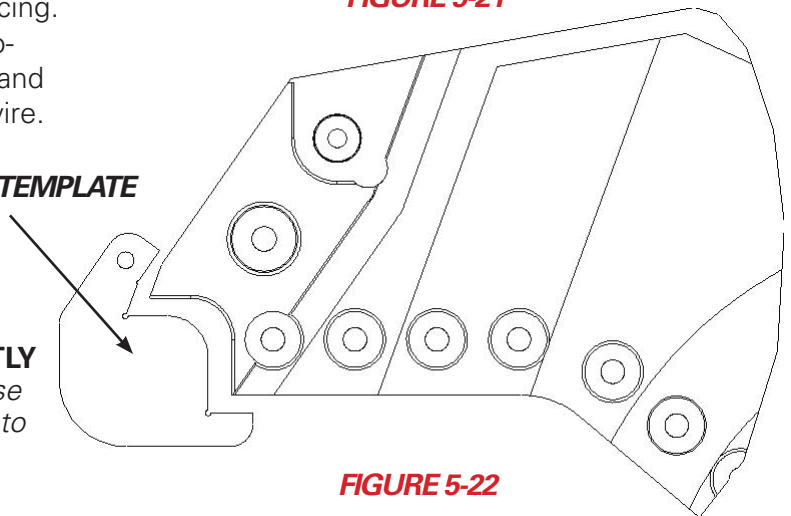

FIGURE 5-22
- **Figure 5-22** is not to scale; it has been enlarged for the purpose of illustration.
- If restoring the profile of the tip pocket is unattainable through welding and grinding, please contact LaBounty Service Department: (800) 522-5059. There is a tip grinding tool that follows a template that will restore the seat to factory specifications.